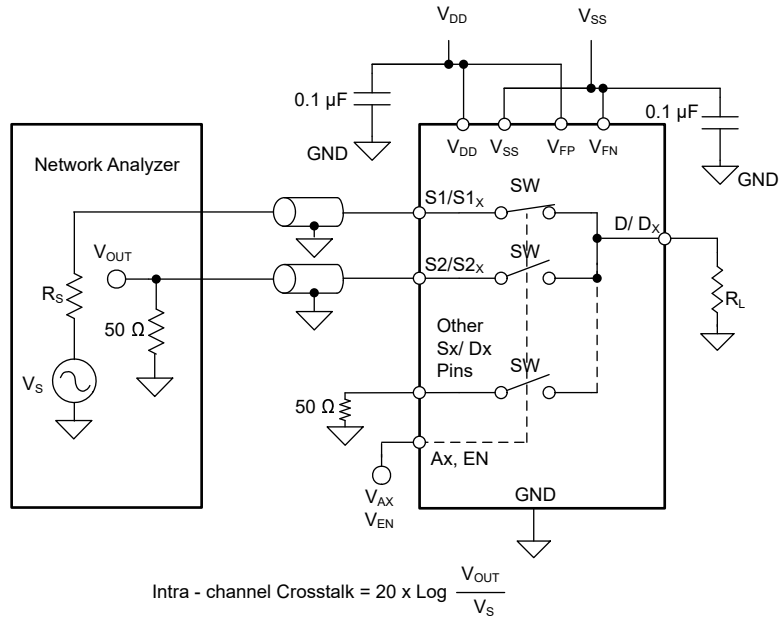

Figure 8-15. Intra-Channel Crosstalk Measurement Setup
1. Intra-channel crosstalk ($X_{TALK(INTRA)}$): **Figure 8-15** shows the voltage at the source pin (Sx) of an off-switch input when a signal is applied at the source pin of an on-switch input in the same channel.